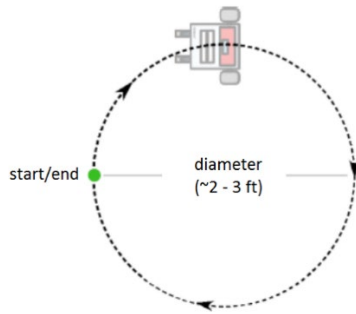

Figure 8: Circle Robot Motion
Part 6 – Circle and Figure 8
1. Write a `moveCircle()` function to move the robot in a circle with the diameter and direction as the input (see Figure 8). You should call the `moveCircle()` function from the `loop()` function. Turn on the RED LED when the robot is moving in a circle. **The circle diameter is measured from the center of the robot halfway between the wheels.**
4. Try to adjust the code so that the robot passes through the same center point of the figure 8 each time. You should call the *moveCircle()* function twice to create the *moveFigure8()* function. This means you may need to modify the *moveCircle()* function pass it a direction variable. You should call the *moveFigure8()* function from the *loop()* function. Turn on the RED LED and YELLOW LED when the robot is moving in a figure 8.
- Use the reference frame shown in Figure 8 for the *goToGoal()* behavior.